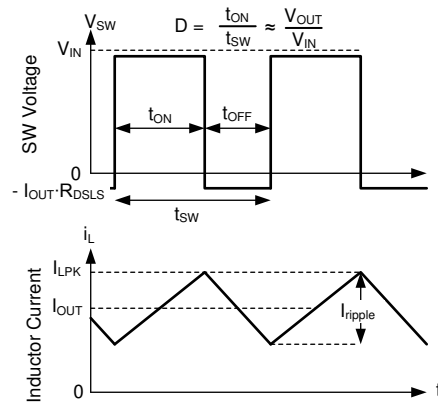

图 7-15. SW Voltage and Inductor Current Waveforms in Continuous Conduction Mode (CCM)
The following operating description of the LMR436x0-Q1 refers to 节 7.2 and to the waveforms in 图 7-15. In CCM, the LMR436x0-Q1 supplies a regulated output voltage by turning on the internal high-side (HS) and low-side (LS) switches with varying duty cycle (D). During the HS switch on time, the SW pin voltage, V_{SW} , swings up to approximately V_{IN} , and the inductor current, i_L , increases with a linear slope. The HS switch is turned off by the control logic. During the HS switch off time, t_{OFF} , the LS switch is turned on. Inductor current discharges through the LS switch, which forces the V_{SW} to swing below ground by the voltage drop across the LS switch. The converter loop adjusts the duty cycle to maintain a constant output voltage. D is defined by the on time of the HS switch over the switching period: